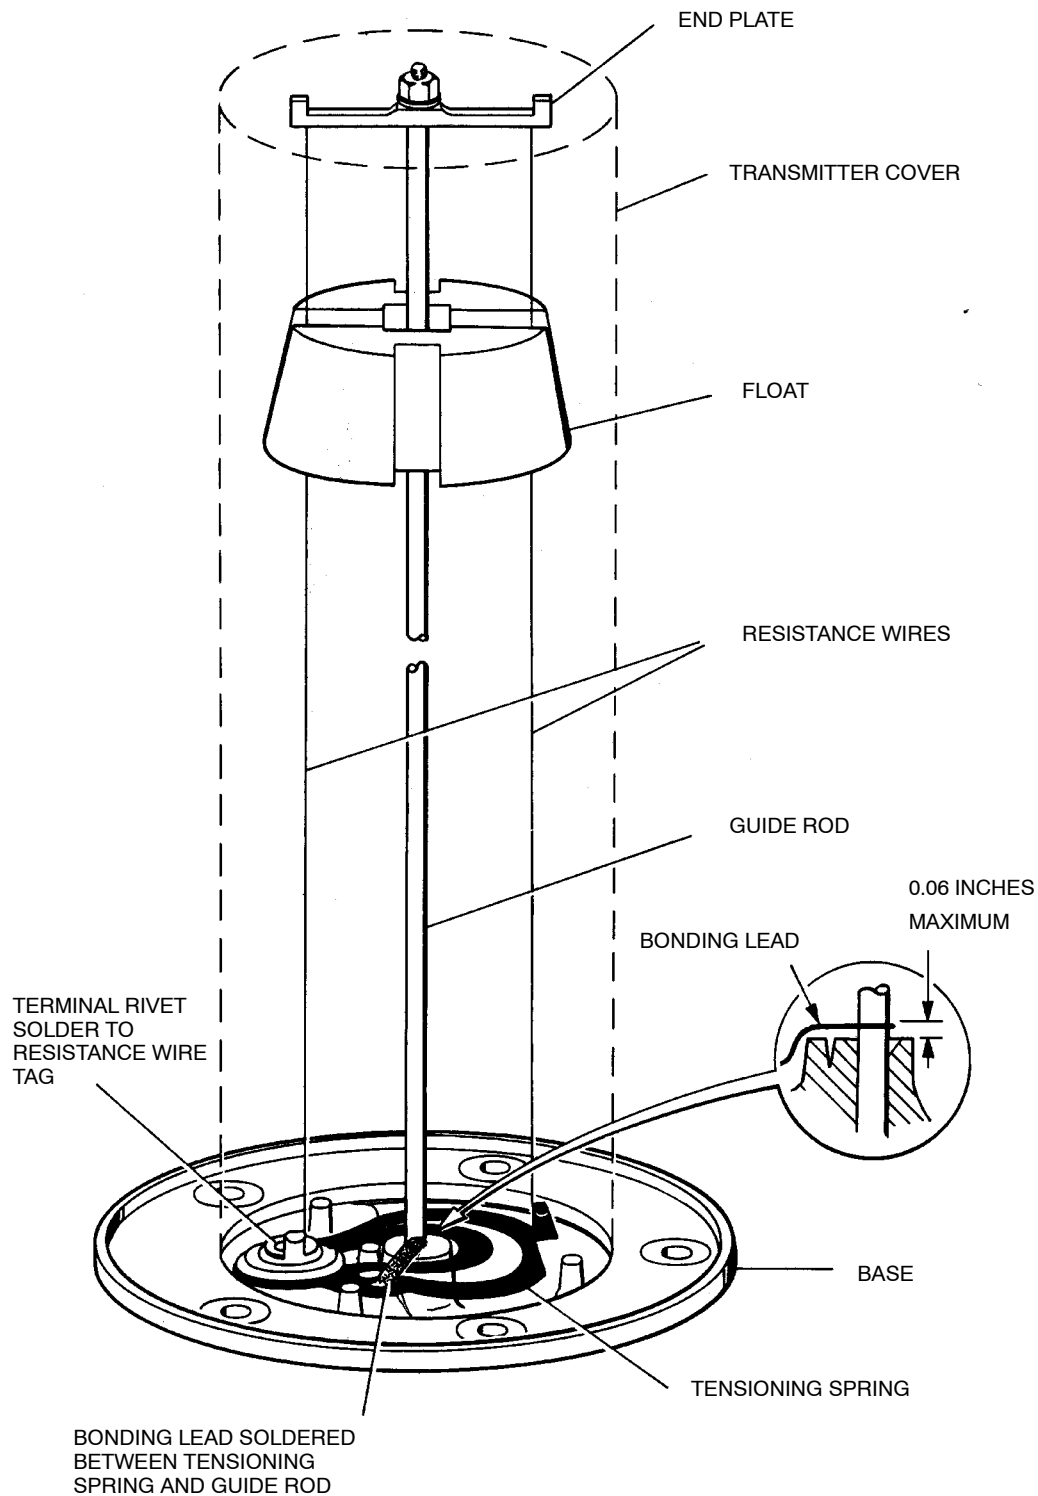

Figure 1
- (7) Solder a piece of braided copper bonding lead, one centimetre in length, between the resistance wire tensioning spring and the float guide rod. Take care to keep the bonding lead as low as possible so that the float range of travel is not reduced. Also solder the resistance wire tag to the terminal rivet (Ref Figure 1).